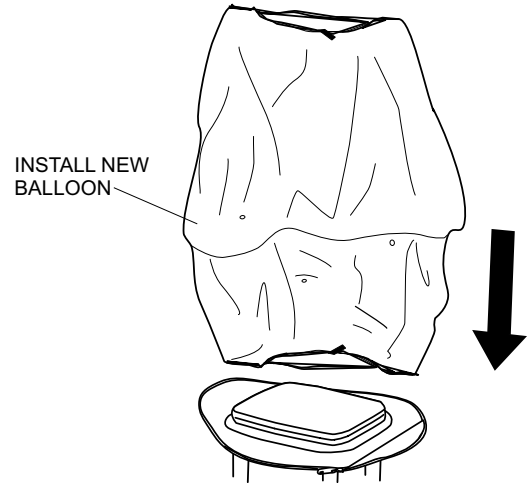

Figure 29. Replacing Balloon
3. Slide in the new replacement balloon over the top of the lamp guard assembly. See Figure 29.